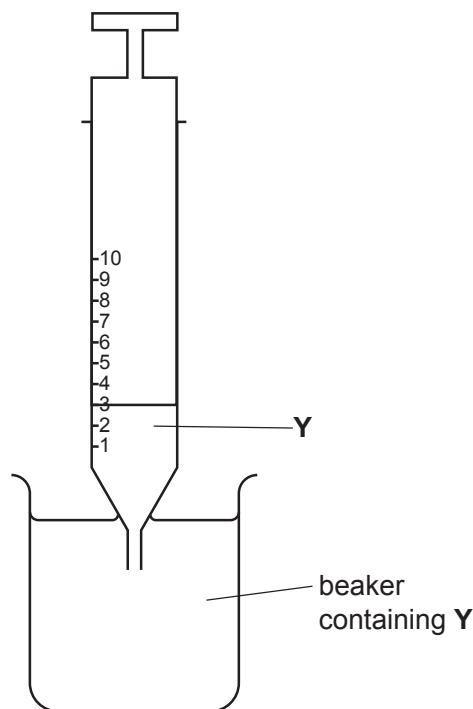

Fig. 1.2
6. Pull the plunger out to the 3 cm³ mark so that **Y** enters the syringe, as shown in Fig. 1.2.